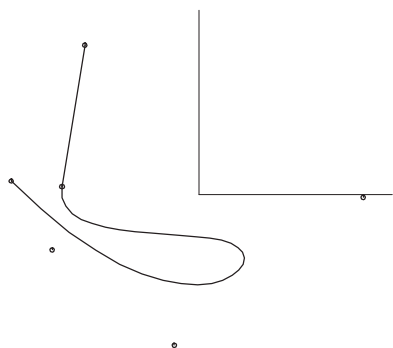

Fig. 8
- 9** As with the previous example, you can move the endpoints of the line and the tangency between the line and the B-spline will be maintained (e.g. Fig. 8). **Try it.**